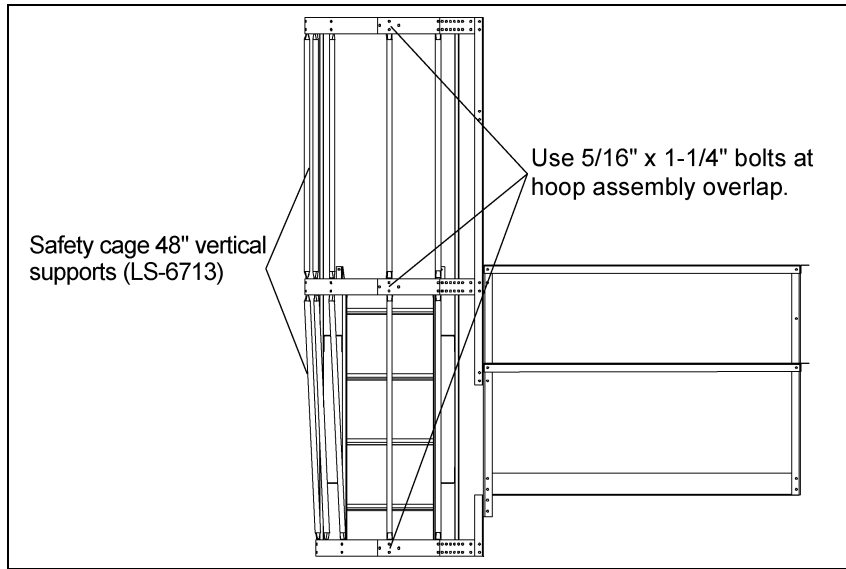

Figure 8N Vertical Supports
After all three (3) hoop assemblies are in place, you may attach the 48" vertical supports from hoop assembly to hoop assembly, as shown in Figure 8N. This requires ten (10) supports, five (5) between each set of hoops. The second set of vertical supports must be bent at the flat area to allow for the tapering of the bottom hoop assembly. Use 5/16" x 3/4" bolts (unless otherwise noted) with the head of the bolt to the inside of the safety cage.